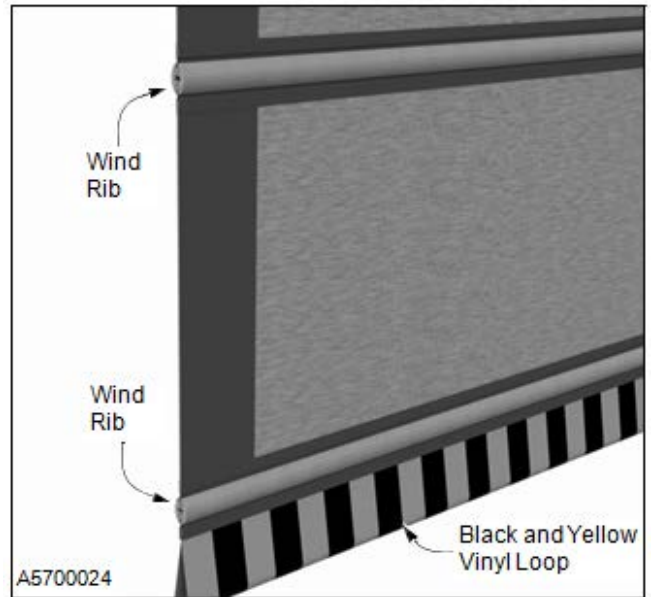

Figure 62
5. Make sure the wind ribs are in place and tightly secured. (See Figure 62)